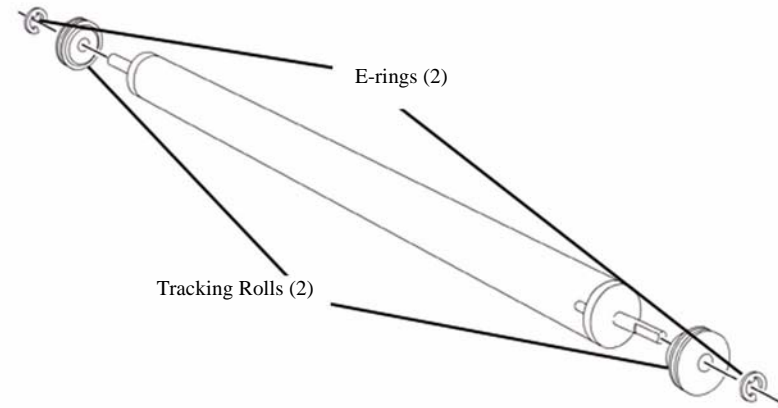

Figure 4 Removing the components from the ends of the Magnet Roll
9. Remove the E-Rings, Tracking Rolls and Spacers (NOT SHOWN) from both ends of the Magnet Roll. Save these parts to re-install on the new Magnet Roll (Figure 4).